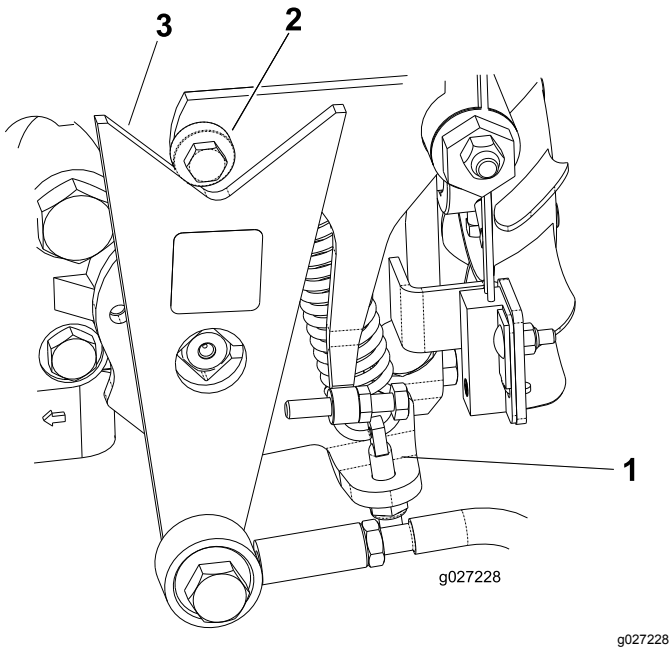

Figure 44
- If the wheels rotate in the proper direction, shut off the engine and adjust the spring-adjusting pin locknut (Figure 44). Adjust the traction neutral position; refer to Adjusting the Traction Drive for Neutral (page 30).